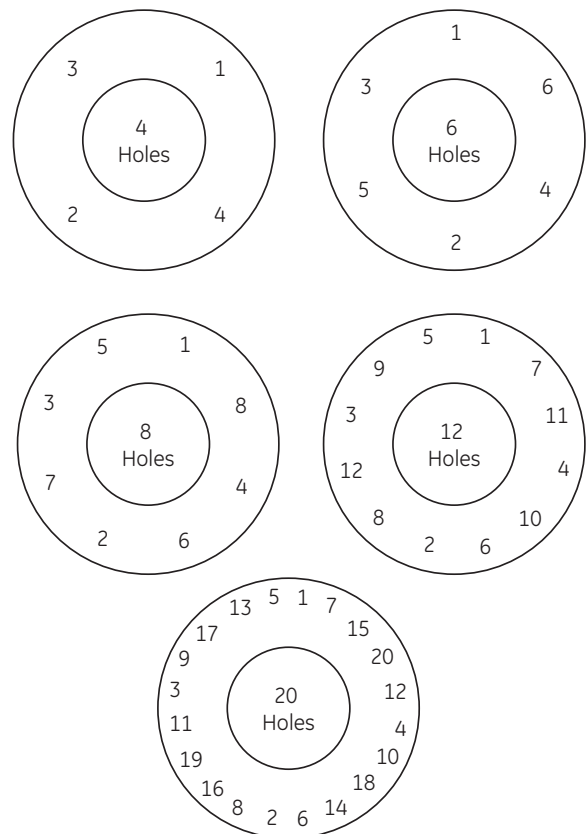

Figure 42: Bolt Tightening Patterns
10. For Teflon seals, make sure of the integrity of the Teflon seal and seal spring. Install Disc Seal on Disc outside diameter on the opposite end of the disc seat as shown in Figure 42.
17. Torque to the values found in Table 11 using the torque patterns in Figure 42 and Table 12.